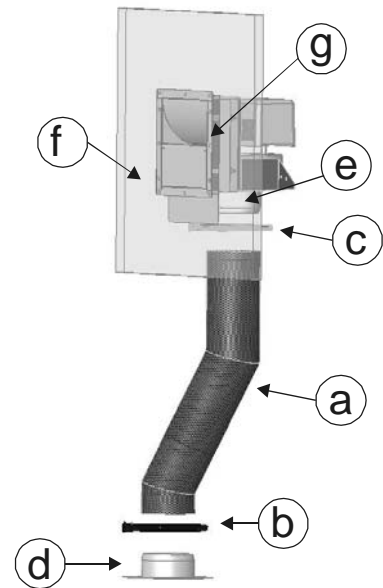

Figure 1– Hose connection
Before installing the natural or forced ventilation COMFORT AIR kit, make sure you have the following material available (fig.1):
1. **For natural ventilation:** connect the hoses (a) and the flanges (d) \varnothing 150 to the connections on the upper part of the stove unit (fig.1).